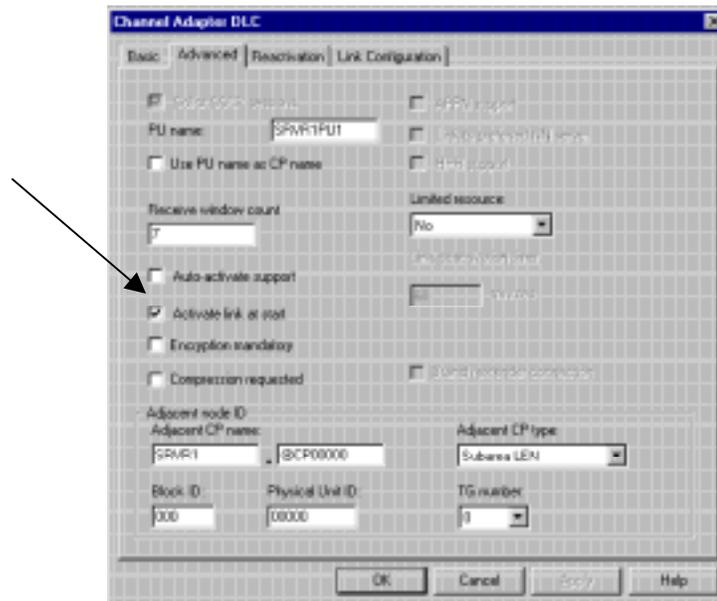

Figure 15-10. Activate Link at Start
5. Verify when the link is set to activate (Figure 15-10). If Activate link at start is not checked, you will have to manually start this link.